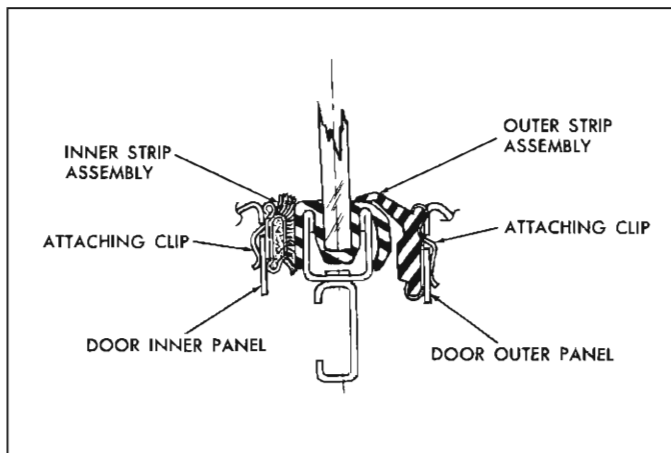

Fig. 7—Glass Channel Strip Assemblies
secured to a metal retainer by a series of staples. On styles equipped with a door window belt reveal molding, the metal retainer is an integral part of this molding. In either case, the molding or retainer is secured to the door outer panel by a series of attaching clips. Moldings are further retained by two (2) attaching screws, one at each end. When the door window is raised, the top section of the outer strip assembly is lifted and held in position by the door window lower sash channel and/or filler (see Figure 7).